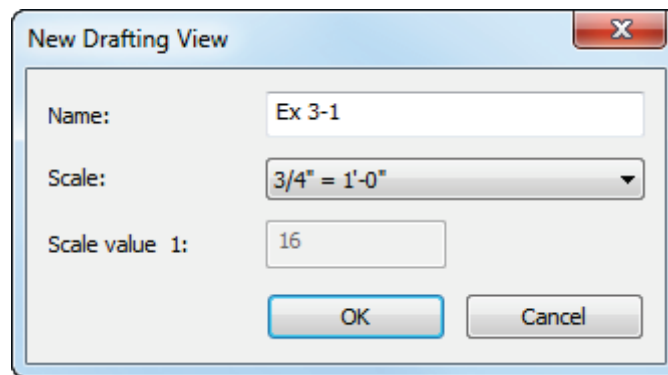

FIGURE 3-1.3 New Drafting View dialog
4. In the *New Drafting View* dialog box, type **Ex 3-1** for the *Name* and set the *Scale* to **3/4" = 1'-0"** by clicking the down-arrow at the right (Figure 3-1.3).